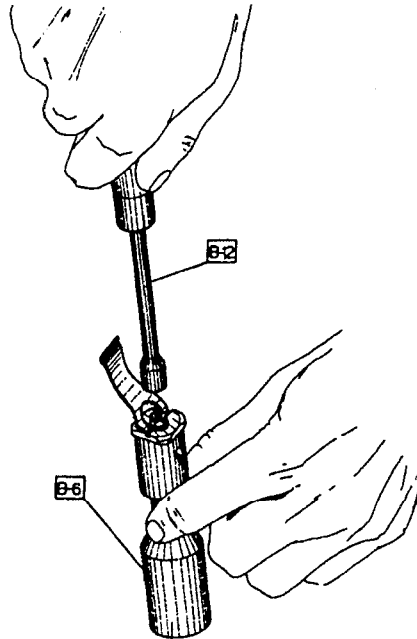

FIG. 5
11. Correctly position the demand lever in the groove of the demand lever connector (91), fit the washer (34) on the poppet stem and lock down the adjusting nut (33) through a few turns, using the special wrench ( B-12). (FIG. 5).
CAREFULLY CHECK THAT THE DEMAND LEVER IS CORRECTLY POSITIONED INSIDE THE DEMAND LEVER CONNECTOR. ( FIG. 5)